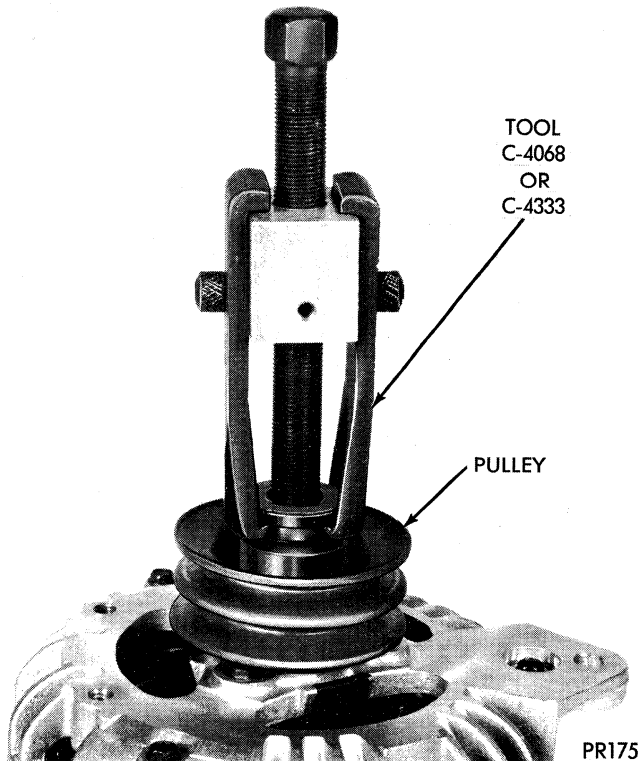

Fig. 22—Removing Pulley
(1) The pulley is an interference fit on rotor shaft. Remove pulley with Puller Tool C-4068 (Fig. 22).